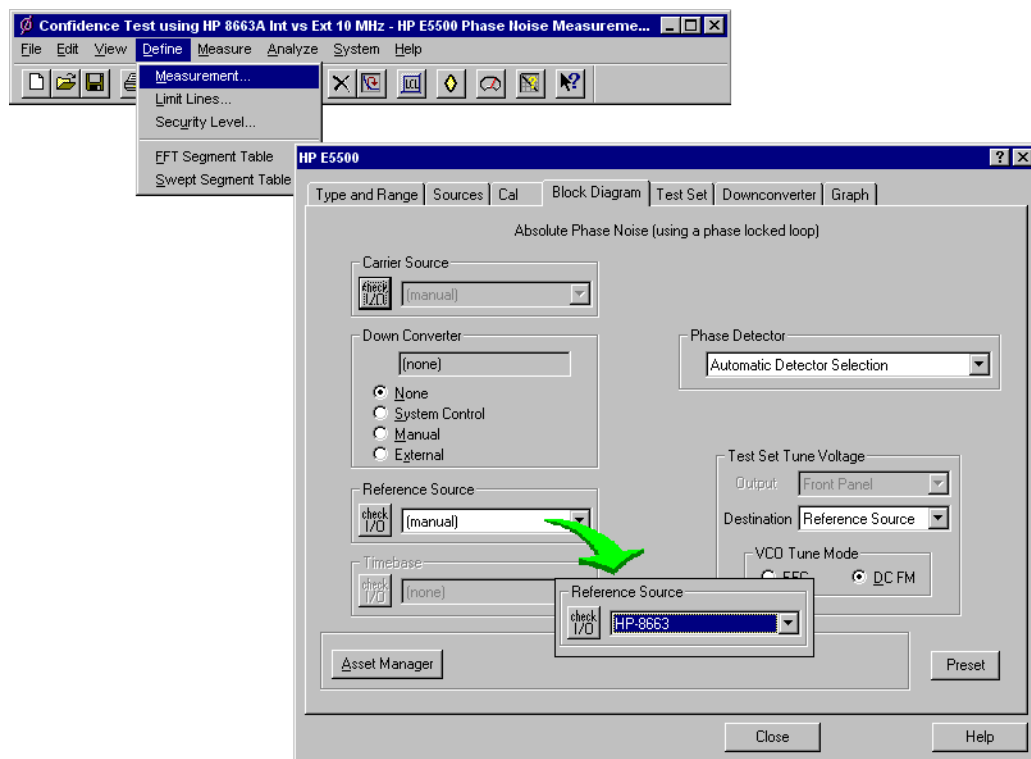

Figure 7-3 Selecting a Reference Source
- 1 Using Figure 7-3 as a guide, navigate to the **Block Diagram** tab.